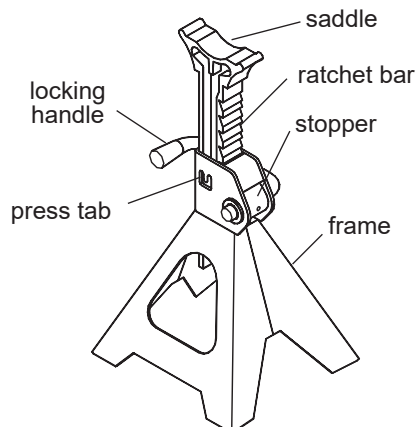

Figure 3 - Typical Jack Stand Nomenclature
5. Ratchet/collar lock is accomplished by simply moving the press tab (Fig. 3) inward using a suitable hammer and punch. This will effectively prevent inadvertent loss of the ratchet bar.